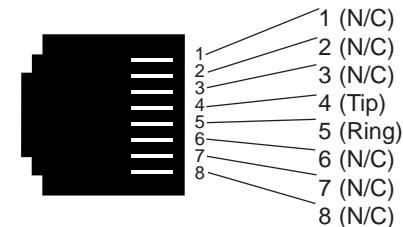
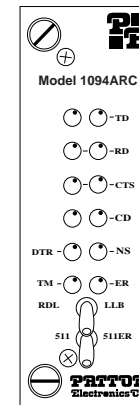

Figure 10. Model 1094ARC twisted pair line interface.
Figure 11. The Model 1094ARC Series' front panel LEDs
1. The RJ-45 connector on the Model 1094ARC's twisted pair interface is polarity insensitive and is wired for a two-wire interface. The signal/pin relationships are shown in Figure 10 below.
The Model 1094ARC features twelve front panel LEDs that monitor power, the DTE signals, network connection and test modes. Figure 11 (below) shows the front panel location of each LED. Following Figure 10 is a description of each LEDs function.